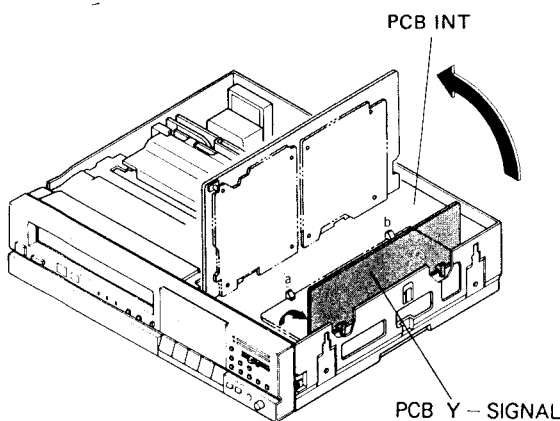

Fig. 2-8
- 3) Unlock the two PCB supports (a and b) retaining the PCB Y-SIGNAL and pivot the PCB Y-SIGNAL in the direction of the arrow as shown in Fig. 2-8.